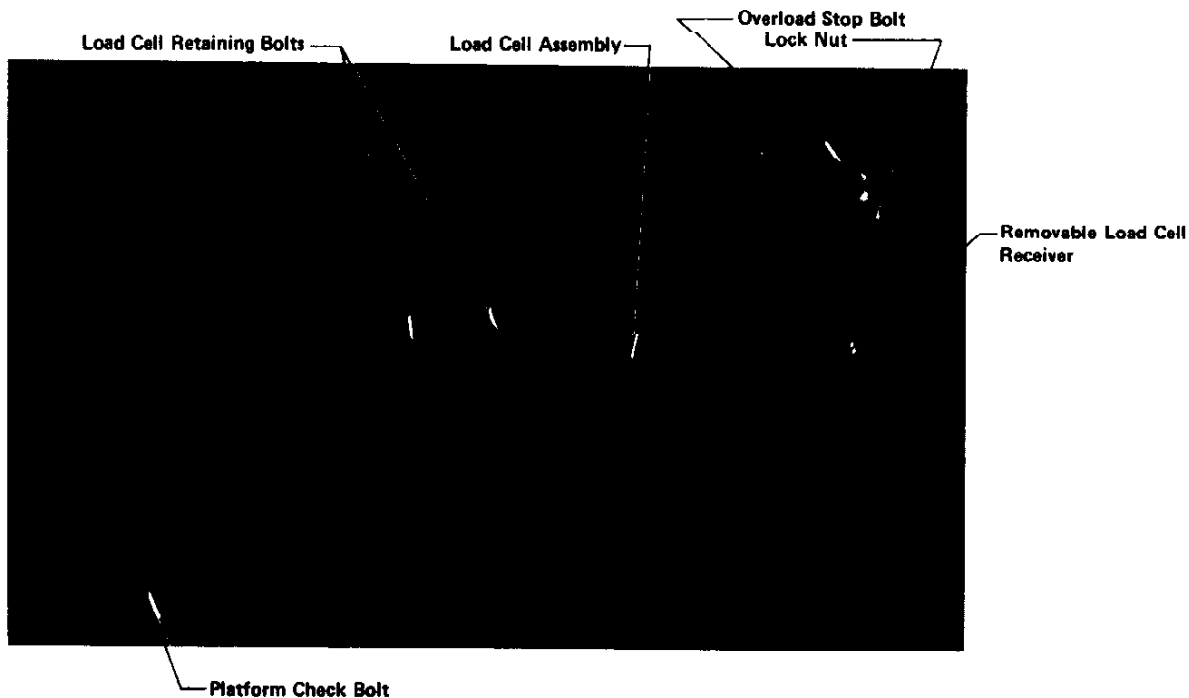

Figure 6
1. Adjust the platform mounted overload stops, one stop at each corner adjacent to the load cell, as shown in Figure 6, until there is 0.045" maximum clearance between the support frame and the overload stop screw. Use a feeler gage to determine the proper setting. Tighten lock nut securely.